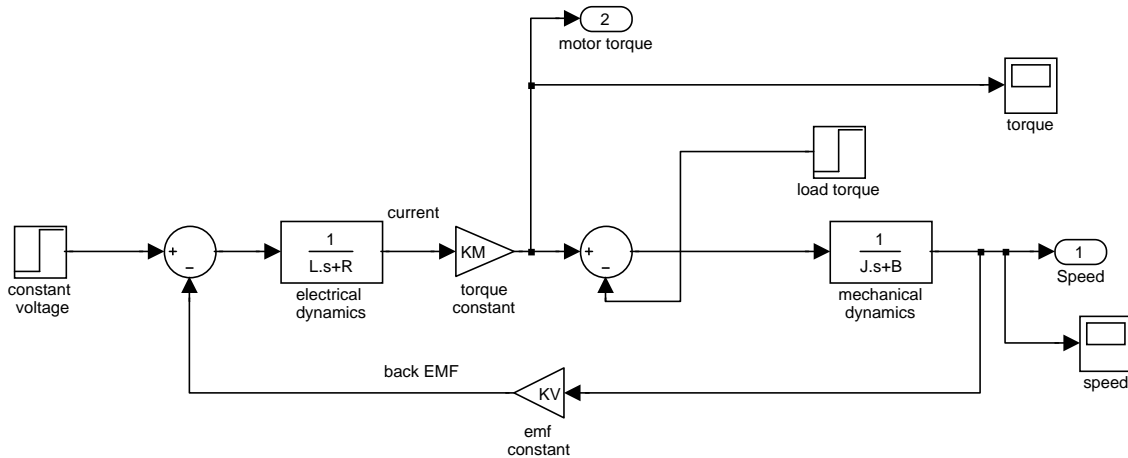

Figure 2: DC Motor with Load Torque Disturbance
- (d) Develop a SIMULINK model of this motor, as shown in Figure 2. Use a “step” block to generate the constant voltage input. Use your model, in conjunction with the Matlab file prob2d_ps3.m to verify